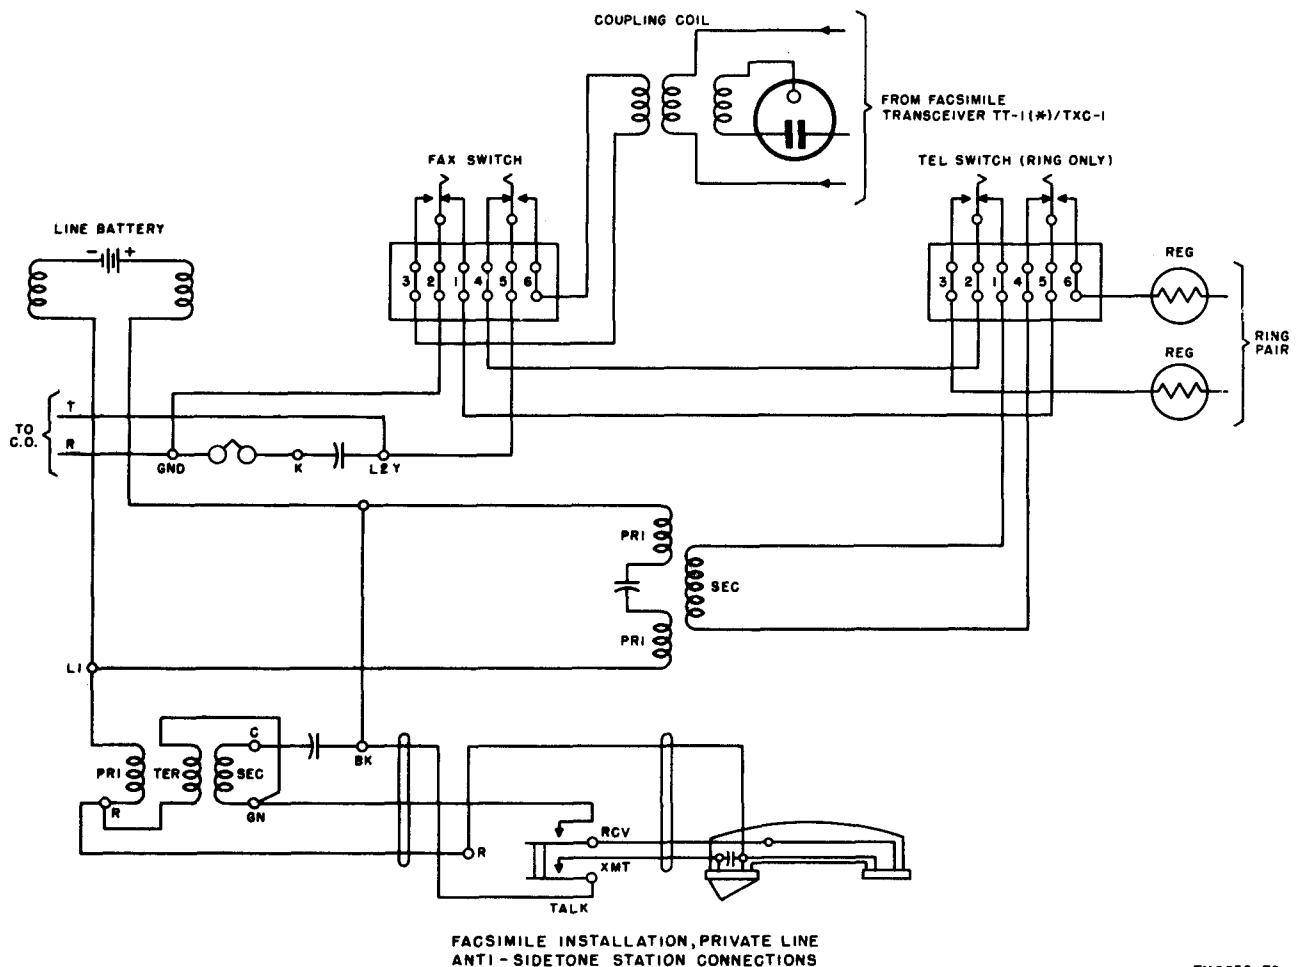

Figure 11. Facsimile installation, private line antisidetone station connectors.
**Caution:** When operating into AT&T (American Telephone and Telegraph Co.) lines (fig. 11), do not apply more than 0 dbm to the line since these circuits are adjusted for proper operation for inputs at this level. To limit the signal applied to their lines, AT&T requires that a 104A or 105A coupling coil be connected between the facsimile equipment and the line. These coils limit the
Selector switch (S1)-Continued	<p>SET RANGE -----The transmitting circuit is established but impulses are not sent over the line. This position is used when the operator is engaged in setting the contrast range (wedge) for transmitting a specific piece of copy.</p> <p>Note. Since the transceiver is disconnected from the line when the selector switch is at SET RANGE, some method must be used to avoid disconnect when operating with a commercial line. A telephone set across the line or a special telephone key will hold the line (fig. 11). A dry line, one not normally used with signaling, will not be rung off.</p> <p>STANDAY. . . . . The tubes are kept ready for operation of the transceiver. This is the normal setting during the periods when copy is not actually being transmitted or received.</p> <p>RECORD PHOTO... .. The receiving circuit is established to use the recorder lamp, which causes recording of received copy on photographic paper. This switch position is, used to set the gain and phase the receiving transceiver. A raised portion of the selector switch name plate enables the operator to set the switch at RECORD PHOTO in the darkroom.</p> <p>RECORD DIRECT. . . The receiving circuit is established to use the stylus instead of the recording lamp. The stylus causes recording of received copy on direct recording paper or other electro-sensitive paper. Moving the selector switch to RECORD DIRECT position mechanically moves the stylus into contact with the paper on the drum.</p> <p>Note. In the TRANSMIT, RECORD PHOTO, and RECORD DIRECT positions, automatic end-of-copy stop relay K1 remains energized if limit switch S8 has been thrown. It is necessary to switch to STANDBY or SET RANGE to reenergize relay K1 in Facsimile Transceiver TT-1F/TXC-1.</p>